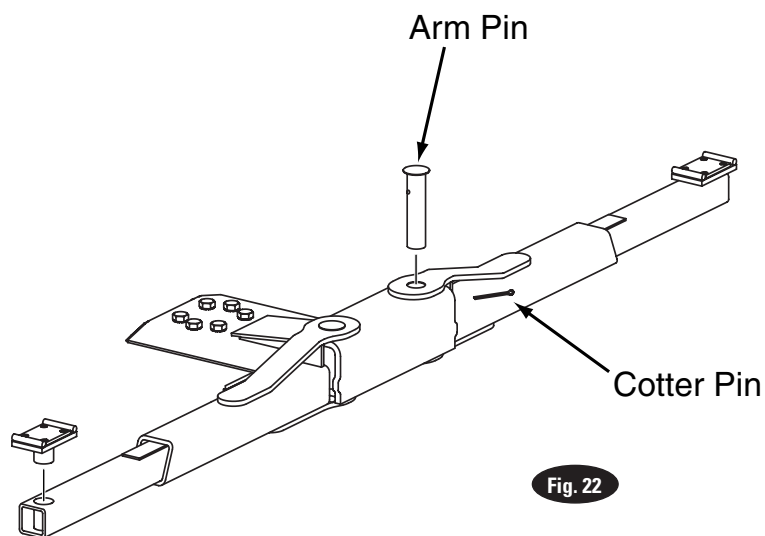

Fig. 22
- 3. Install (4) arm assemblies using the arm pins and cotter pins, Fig. 22.